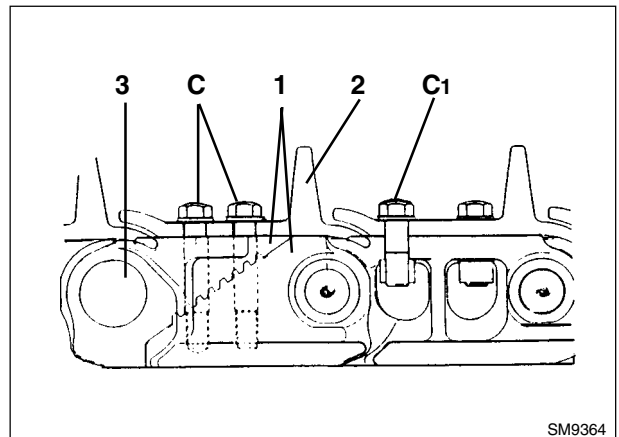

Fig. 5-11 Track chain master link
3. Place a wooden block under the rib of the shoe nearest the junction point. Connect half links (1), install the master shoe and tighten the screws to the prescribed torque indicated in fig. 5-11.
**Note** – Before installing, degrease screws (C) and the treaded seats on master link (1).